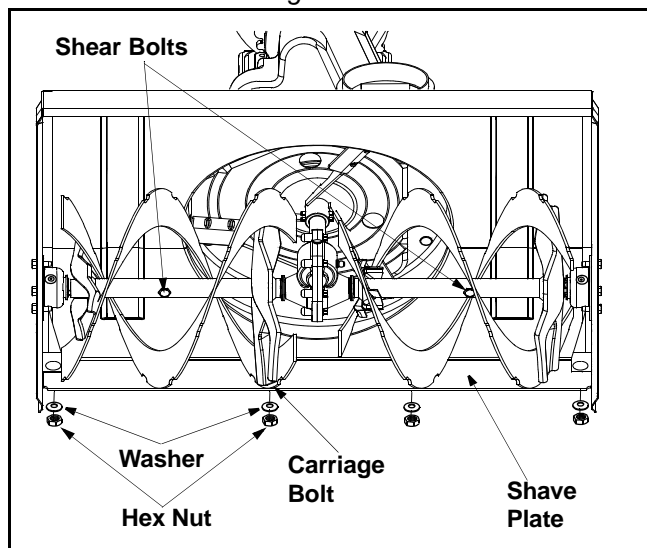

Figure 17
- To remove the shave plate, remove the carriage bolts, belleville washers and hex nuts which attach the shave plate to the snow thrower housing. See Figure 17.